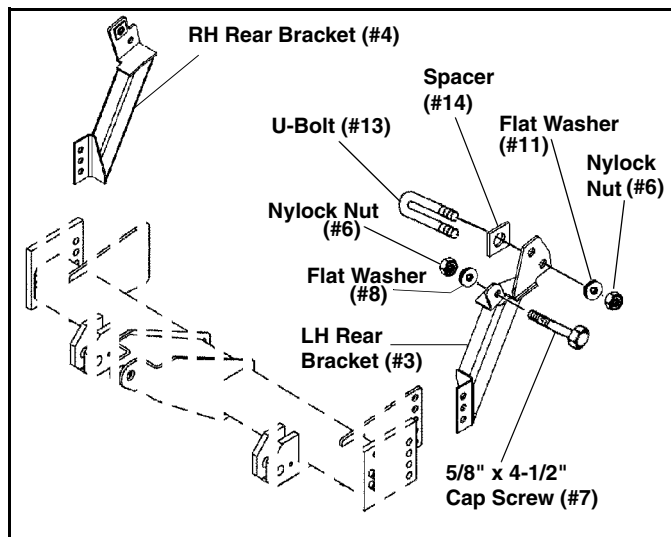

Figure 1
3. Attach (2) side mounting plates (#2) to the outside of the frame, one on each side, also reinstalling the bumper support brackets with (2) 1/2" x 1 1/2" Cap Screws (#9), (4) 1/2" Flat Washers (#11), and (2) 1/2" Nylock Nuts (#6) provided. Flat Washers are used on both the bolt and the nut side. Through the center slot use the previously removed bumper bracket bolts to attach. On vehicles for early 1997 and prior, secure the last hole with (2) 1/2" x 4 1/2" Cap Screws (#10), (4) 1/2" Flat Washers (#11), and (2) 1/2" Nylock Nuts (#6). Flat washers used on both bolt and nut sides. For later 1997 and newer vehicles the hole will not be used.
**NOTE:** The following vehicles will require a spacer (#14) between the rear holes of the left and right hand brackets and the vehicle frame: (see figure 1)